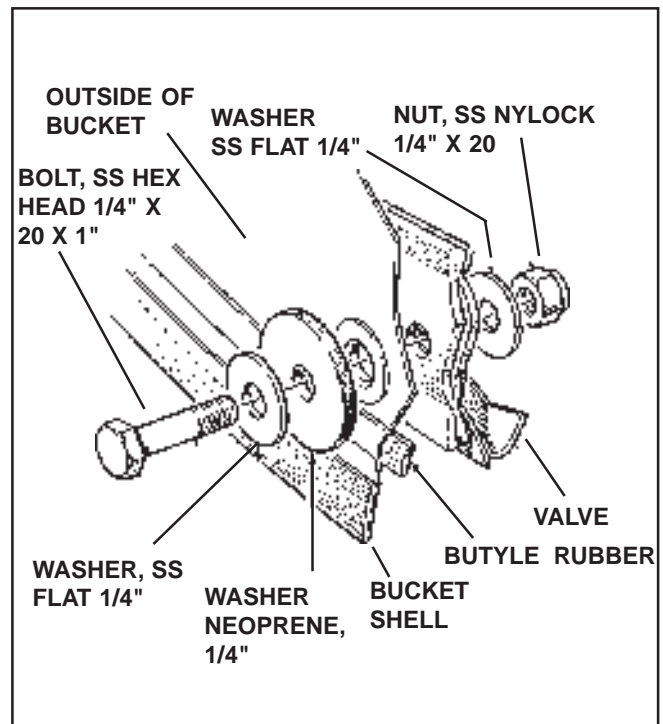

Fig. 36. Valve fastenings: correct order.
- 2) Apply a 1/2" (13 mm) x 1/8" (3 mm) bead of butyl rubber sealant in a circle around the inside of the bucket shell, just below the valve grommets, to make a seal between the shell fabric and the dump valve fabric. The correct location for the sealant is shown in Fig. 36.
- 6) Install the fastenings and snug up the nuts until two threads on the bolts show. See Fig. 36 for the correct order of the fastenings. Do not overtighten.